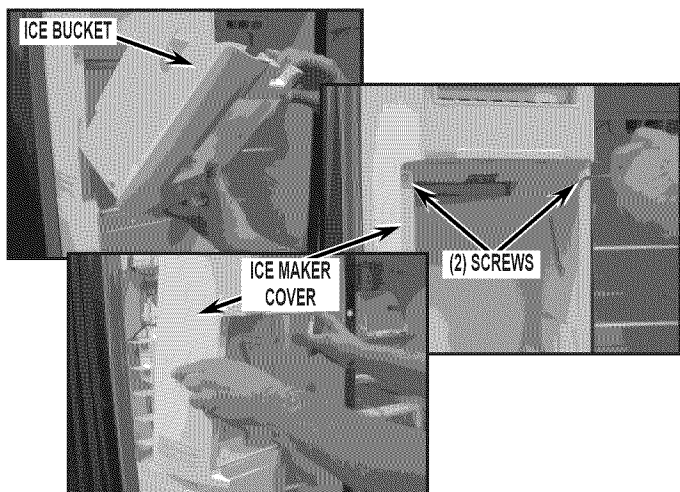

FIGURE 7
- Open the freezer compartment door, lift out the ice bucket. Remove the ice maker cover by removing two (2) screws. See *Figure 7*.